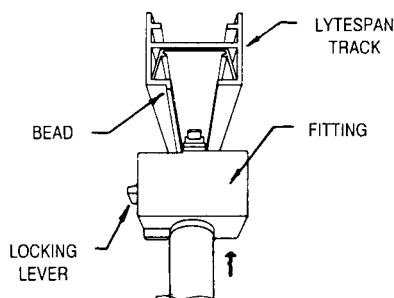

FIG. 1
1. Grasp TOP FITTING at top of ADAPTER and insert it into the LYTESPAN TRACK. The LOCKING LEVER must be on the same side of the track as the BEAD. (See Fig. 1.)